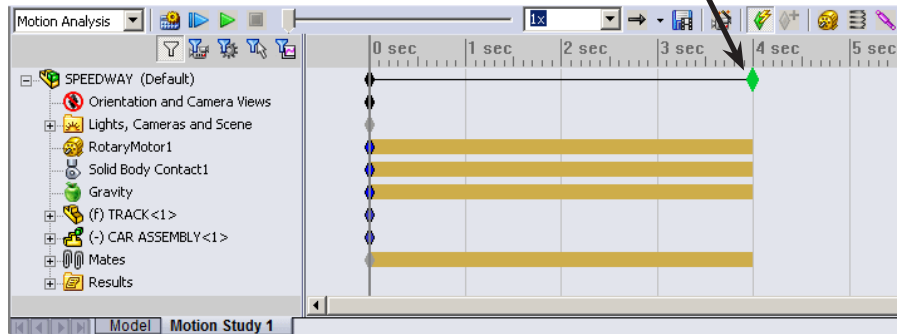

Fig. 24
Step 2. Set the **Motion Study duration to 4 seconds** on the Timeline. To change duration, in the top Timeline drag the **Key Point**  at 5 seconds to 4 seconds, Fig. 24.